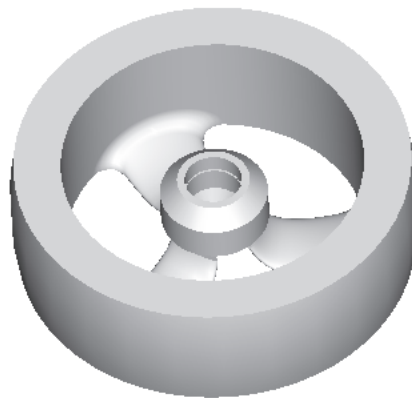

Figure 8-78 Model after creating the revolve cut feature
- e. The fifth feature is a revolved cut, see Figure 8-78. First you will draw the sketch of the cut feature on the sketching plane, apply constraint and dimensions, and revolve the sketch to 360-degree.
8. Choose **OK** from the **CUT** dialog box. The revolve cut feature is shown in Figure 8-78.